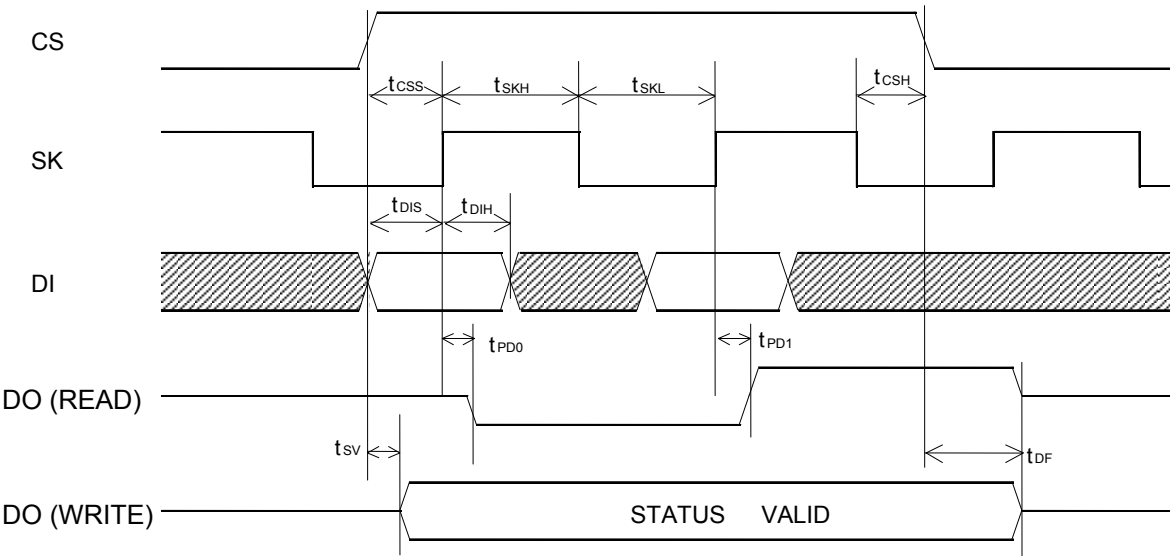

Figure 3: Synchronous Data Timing
The BR93□□ has a seven instruction set, shown in Tables 6, 7 and 8. The timing charts depicted in Figures 3 to 10. Input Data are clocked in from Serial Data Input (DI) at the rising edge of the Serial Clock (SK), while output data from the Serial Data Output (DO) toggles at the rising edge of the Serial Clock (SK) during READ mode.